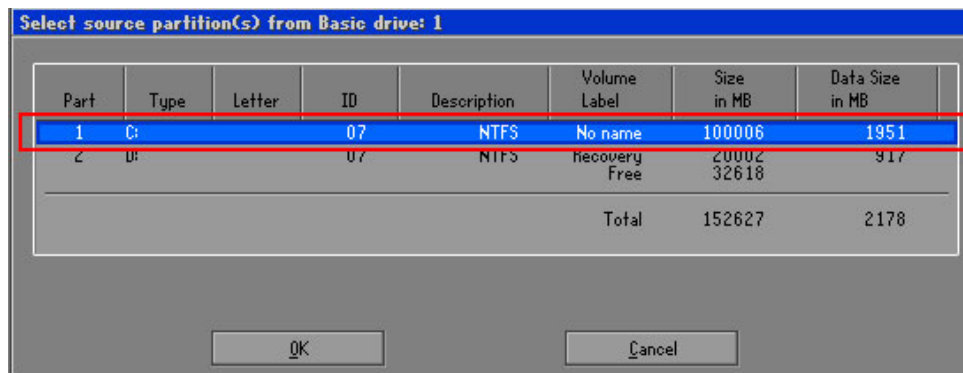

Figure B-12: Select a Source Partition from Basic Drive
Step 6: Select a source partition from basic drive as shown in Figure B-12. Then click OK.